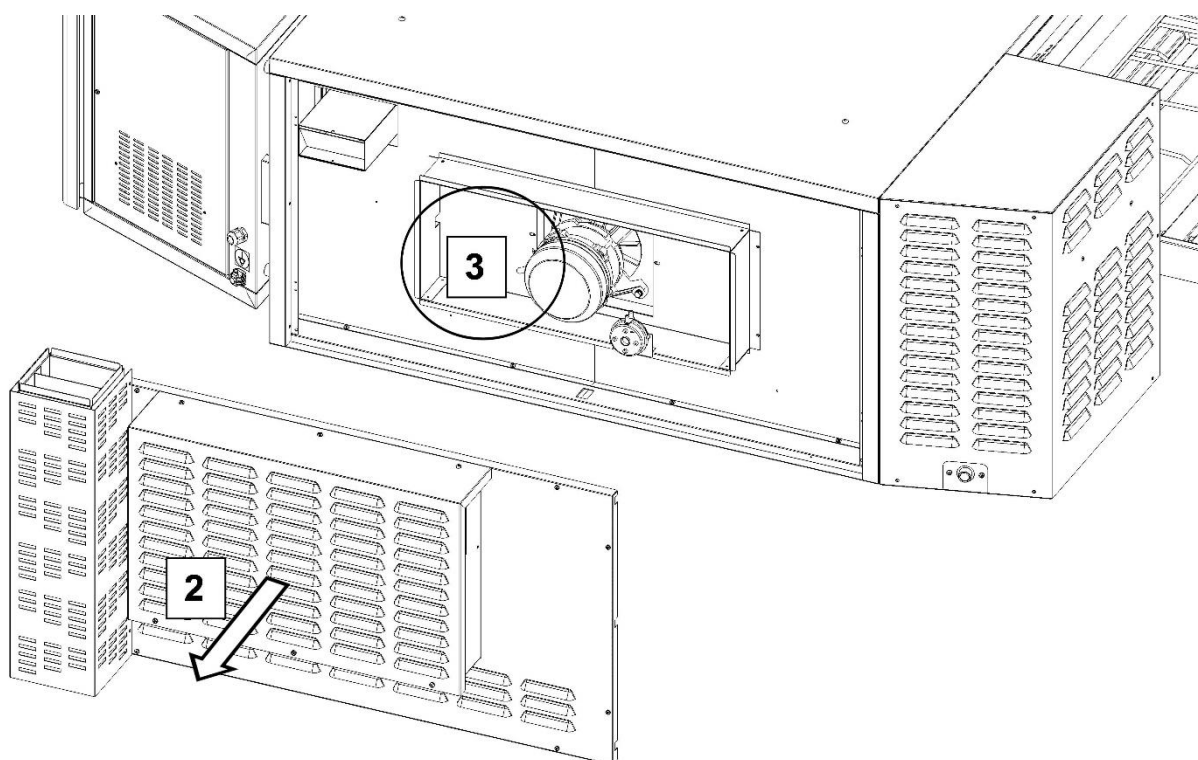

Fig.7
- 2.Remove the back panel and disconnect the electrical connections of the cooling fans, placed in the upper part of the panel. (Fig.7).
- 3.Disconnect the electrical connections of the motor and of the pressure switch (Fig.7 zone 3). Disconnect the air pipes of the pressure switch.
Tapping the 'Percentage speedometer' icon (Fig. 7) opens the menu for editing the engine speed correction setting ($\pm 0 \div 10\%$).